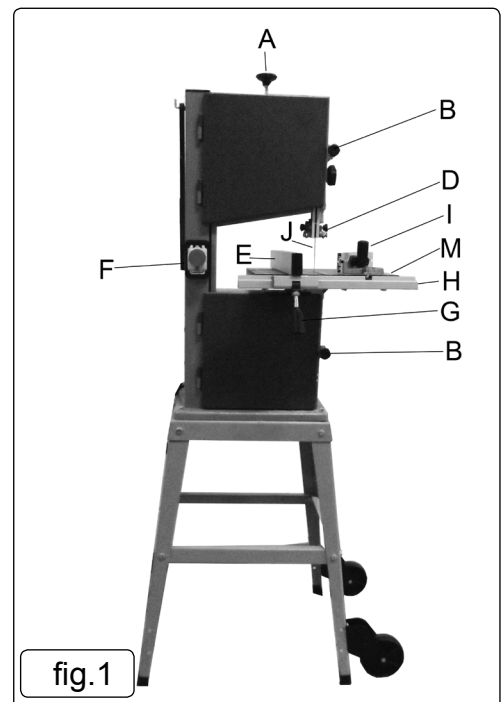

fig.1
SM1304: Carefully place worktable (fig.1.M) onto its supporting base, whilst sliding saw blade through the slot in the table. Fix to base with four bolts and washers supplied. Before finally tightening these, check that the table blade slot and sawblade are in line, set correctly and then tighten all bolts.
Set table to correct angle, tighten all fixings. Attach the table side guide (fig.1.H) to worktable using four bolts and washers.
5.9.1. The fence (fig.1.E) is mounted on the table side guide (fig.1.H).
5.9.2. To reposition or remove the fence, push up locking handle (fig.1.G). To refit the fence, slide onto work table from the front or back as required. Push down handle (fig.1.G) to lock when fence is in required position.